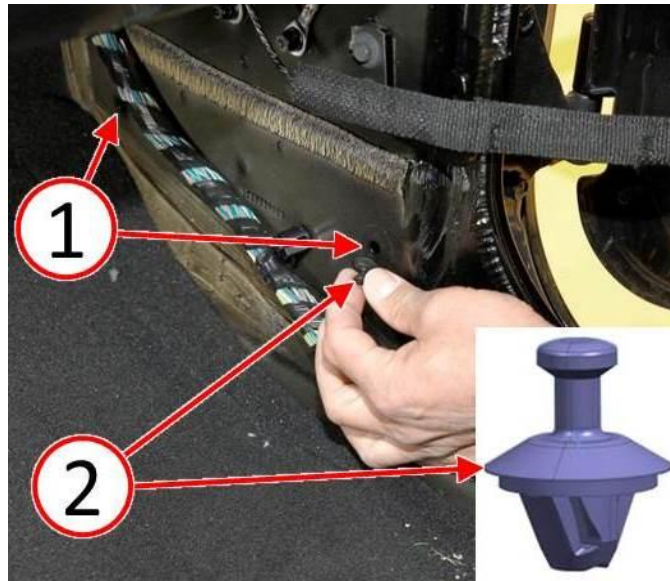

Fig. 5 Install T-Studs
15. Install the two stud clips (2) into the cowl trim panel fastener holes (1) (Fig. 5).